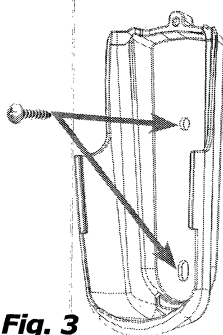

Fig. 3
- Secure bracket to wall using screws provided (Fig. 3).